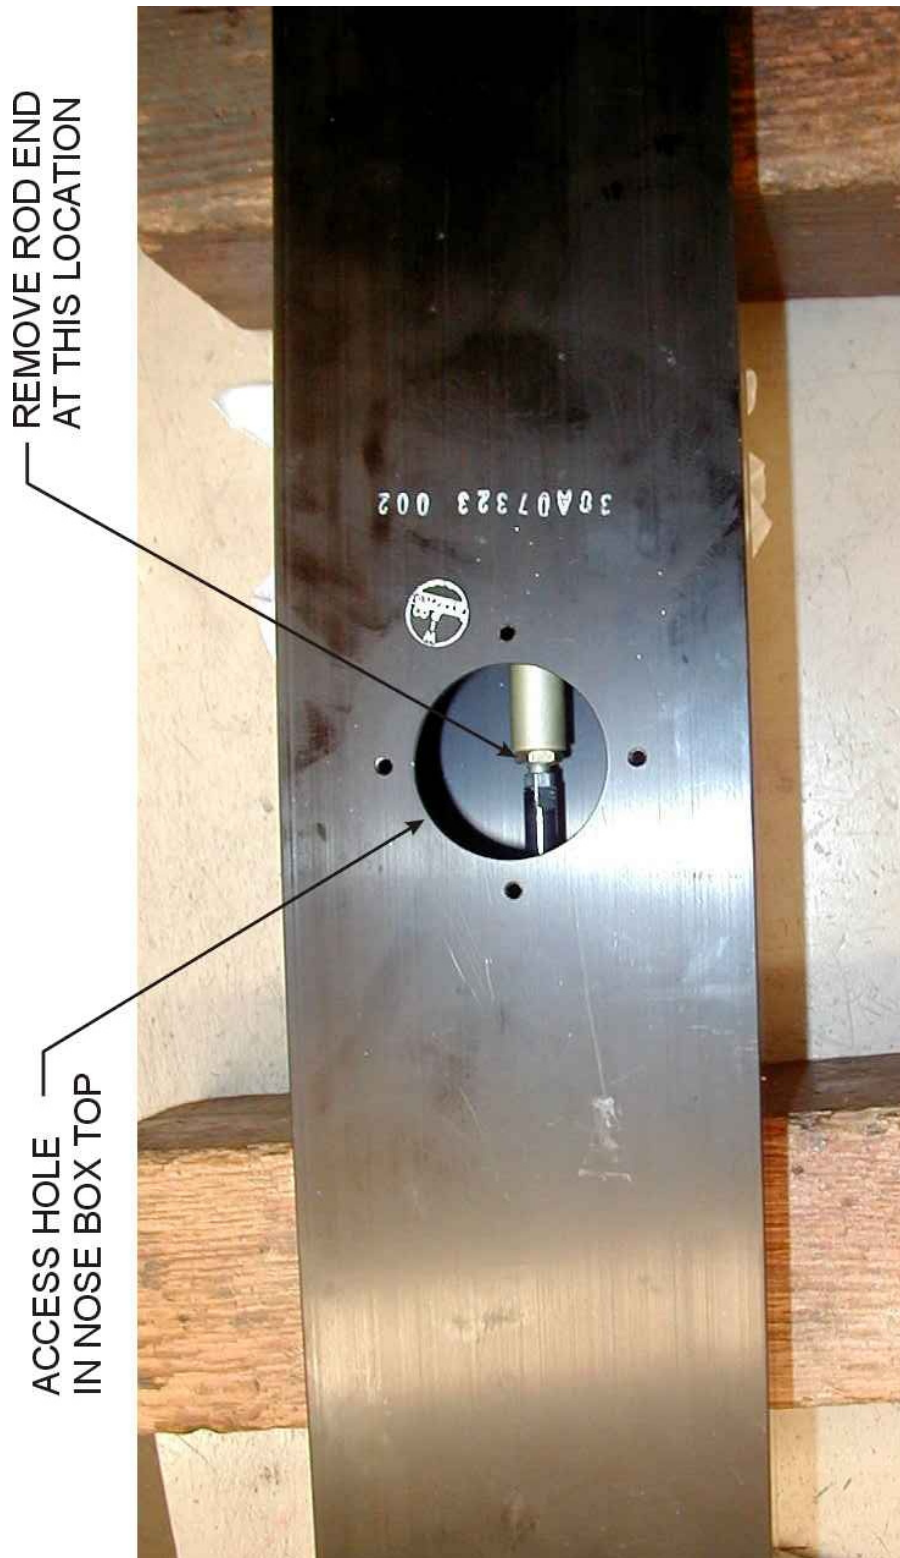
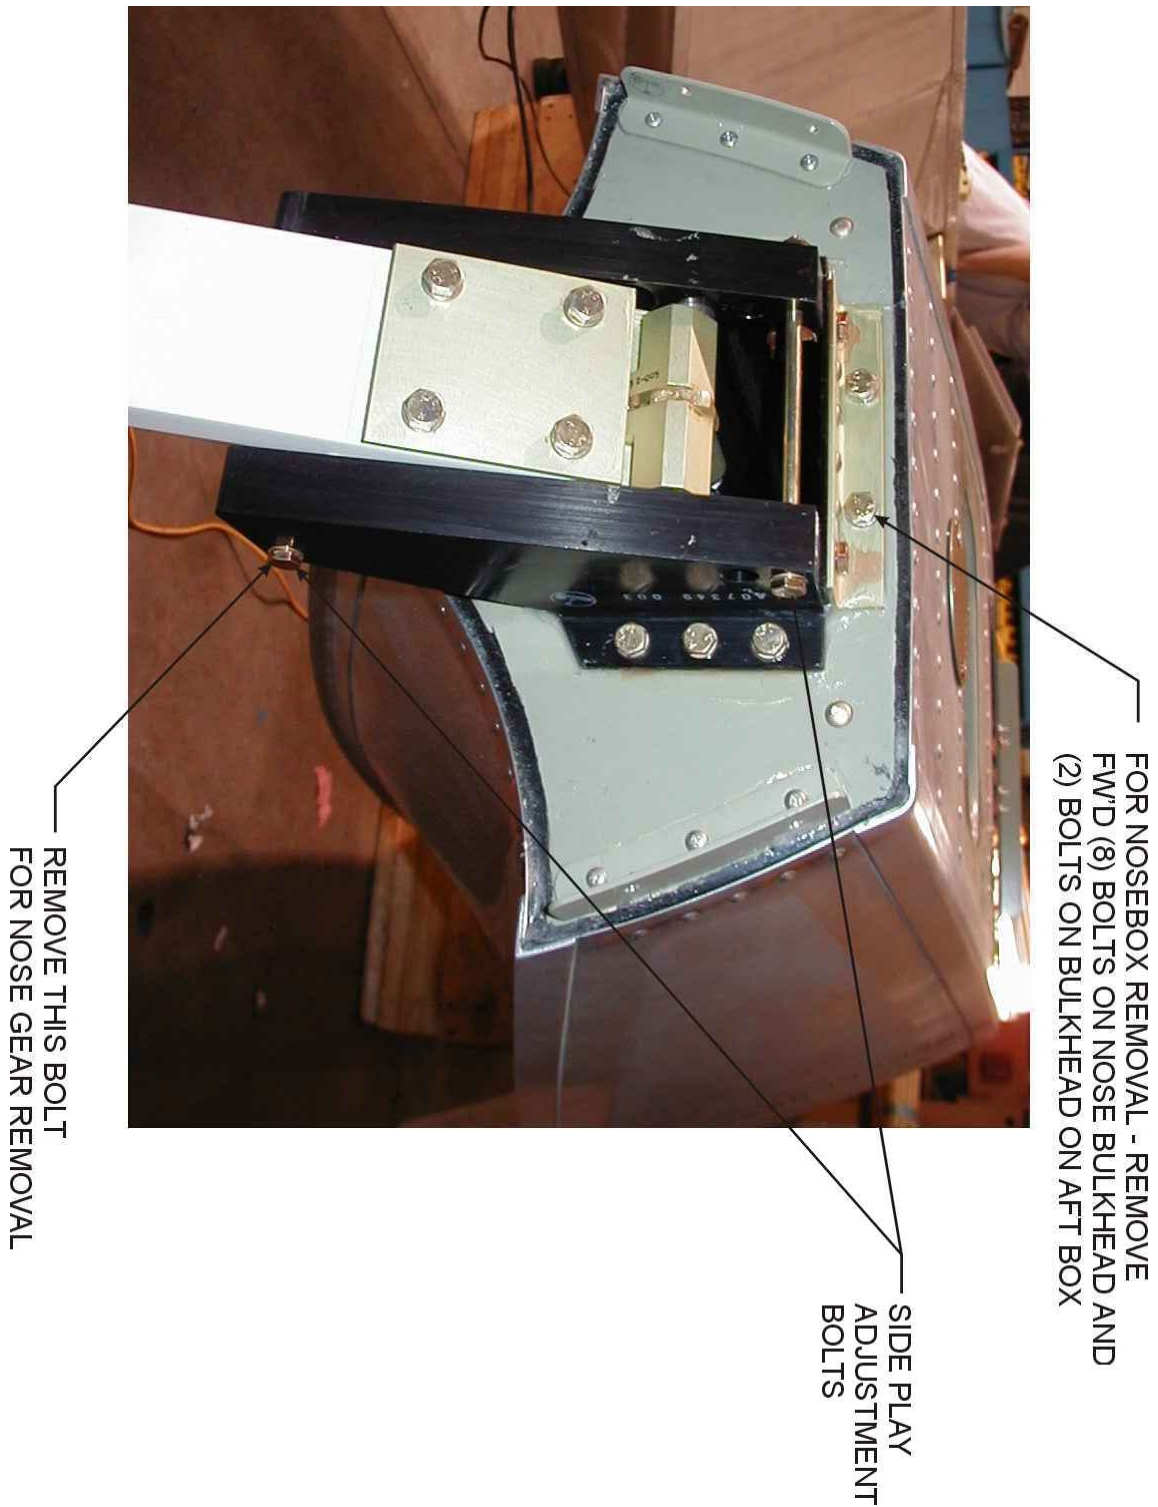

FIGURE 7-2 NOSE BOX ACCESS LOCATION
FIGURE 7-3 FRONT VIEW NOSE BOX
3. Remove round inspection cover on nose box top from above access (refer to Figure 7-2).
3. Slide trolley into nose box and reconnect to cylinder (refer to Figure 7-2).
4. After above has been accomplished, the down lock has to be adjusted by lengthening or shortening cylinder rod end. Adjust so two (2) rollers on the trolley link axle sit in the nose fork down stop slots.
6. Bring gear to down and locked position and set side play adjustment. These are the two (2) long ¼ inch bolt that (refer to Figure 7-3) are horizontal through the nose fork. Adjust to 3/32 maximum side play. Do not over-tighten bolts to avoid gear binding.
7. Reinstall cover on Figure 7-2.